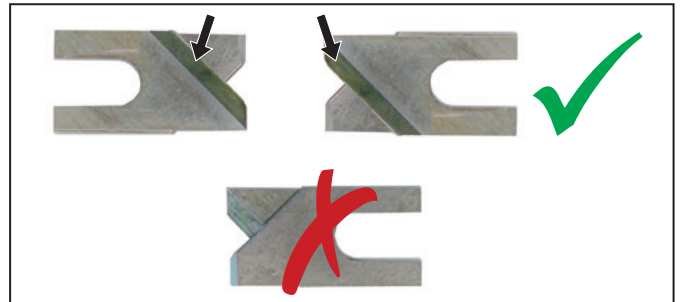

Figure 8.2 Stripping blade mounting position
- Place each new pair of blades together so that the angled edges point to the outside, see Figure 8.2.